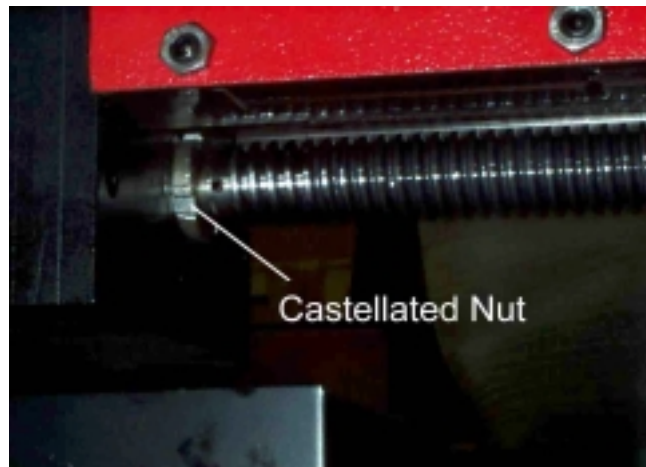

Figure 1
- 2) Loosen the Castellated Nut (Figure 1). This nut is located on the rear of the housing where the Hand Wheel is attached.